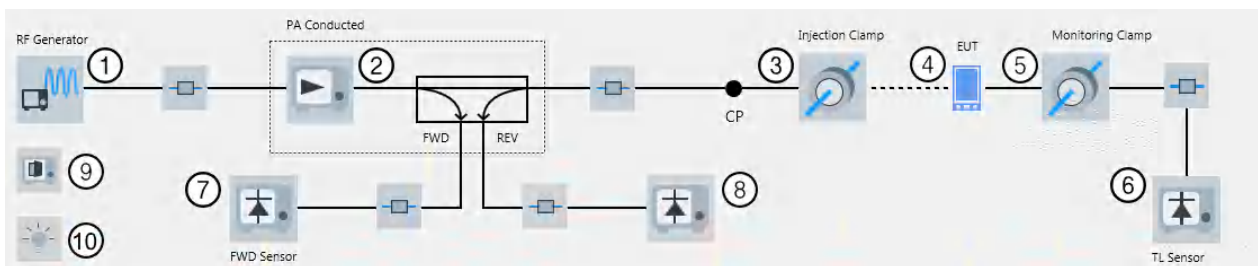

Figure 4-148: EMS hardware setup diagram (conducted) for BCI in EUT Test View
- The "EUT Test View" (see Figure 4-148)
In a typical BCI setup, the EUT's output is monitored by a transducer and TL sensor not only during calibration, but also during the test. Monitoring the live current with a monitoring clamp as in Figure 4-148 ("EUT Test View") allows controlling and limiting the forward power. Or, when you use the Substitution Method, it allows limiting the current.